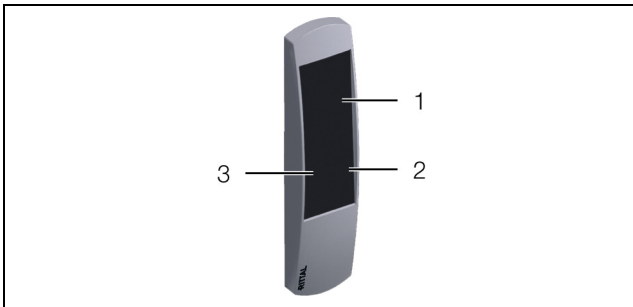

Fig. 4: Front of the transponder reader
Two LEDs for the status display are integrated into the front of the transponder reader (fig. 4, item 2 and item 3).